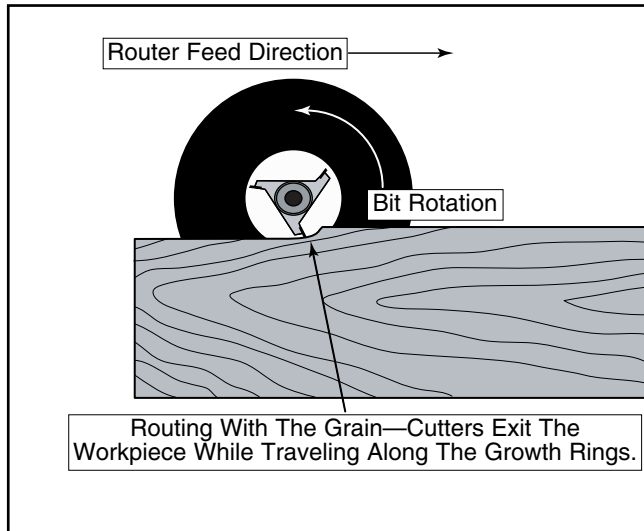

Figure 11. Proper feed direction and grain orientation when viewed from bottom.
1. Examine the top face of workpiece you intend to route and determine the direction of the grain. Always feed the router so the bit is cutting with the grain (cutting along the growth rings as shown in **Figure 11**). Cutting against the grain chips the wood rather than cutting it, and makes for a rougher surface with more "chip out".
- It is very important to pass the router across the workpiece so the bit is rotating opposite the feed direction as shown in **Figure 11**. If the cutters are moving in the same direction you are feeding the router, you are performing a “climb cut.” This is a very dangerous operation because the router could lunge forward out of your hands, causing serious personal injury.